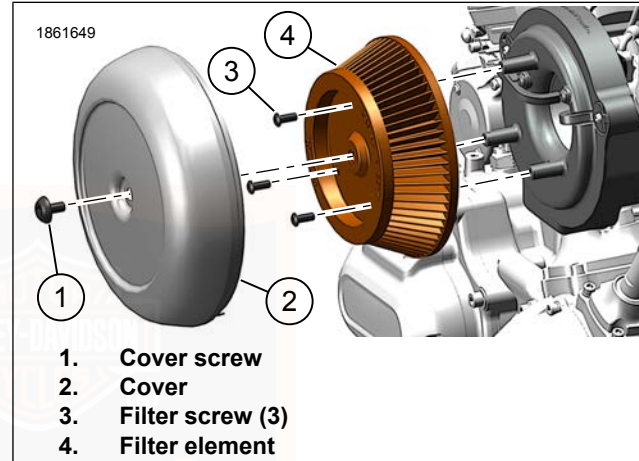

Figure 70. Air Cleaner: Round High Flow
1. See Figure 70. Remove air cleaner cover.
- a. Remove screw (1).
- b. Remove cover (2).
- a. Remove screws (3).
- b. Remove filter element (4).
1. See Figure 70. Install filter element.
- a. Apply LOCTITE 243 MEDIUM STRENGTH THREADLOCKER AND SEALANT (BLUE) (99642-97) to threads of screw (3).
- b. Install filter element (4).
- c. Install screws (3). Tighten. 55–60 **in-lbs** (6.2–6.8 N·m)
- a. Apply **LOCTITE 243 MEDIUM STRENGTH THREADLOCKER AND SEALANT (BLUE)** (99642-97) to threads of screw (1).
- b. Install cover (2).
- c. Install screw (1). Tighten. 50–65 **in-lbs** (5.6–7.3 N·m)